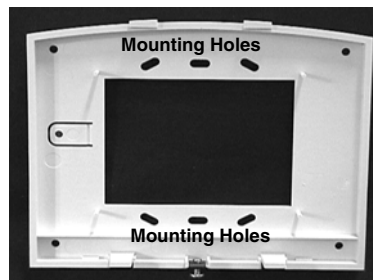

Figure 2. Mounting Hole Locations
2. For wall mounting, place the mounting plate on the wall and mark the mounting holes (see Figure 2). Be sure to leave a 3-inch clearance below for the touchpad door to open.